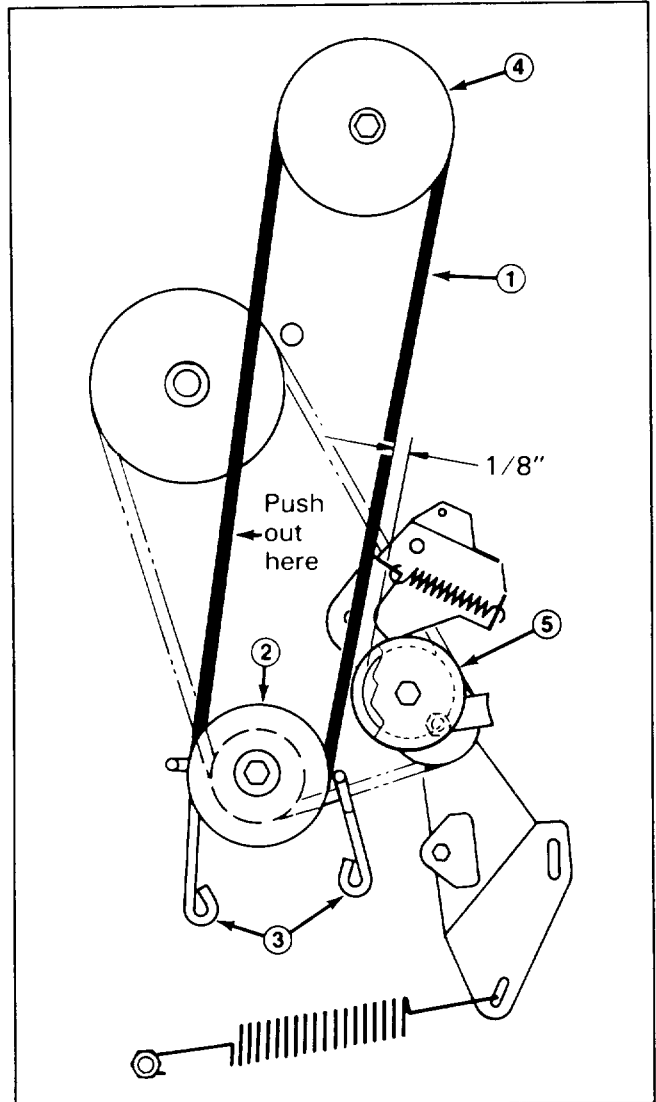

Figure 20
7. Loosen capscrews securing (2) engine pulley belt guides and move guides away from pulley. Remove deck drive belt from engine pulley (Fig. 20).
9. Remove (2) screws securing belt guide to mower housing and remove belt guide. Remove belt from pulley.
12. Pushing out on belt (removing slack), as shown in fig. 20, check clearance between outside of belt and inside of idler pulley (Fig. 20). Clearance should be approximately 1/8".